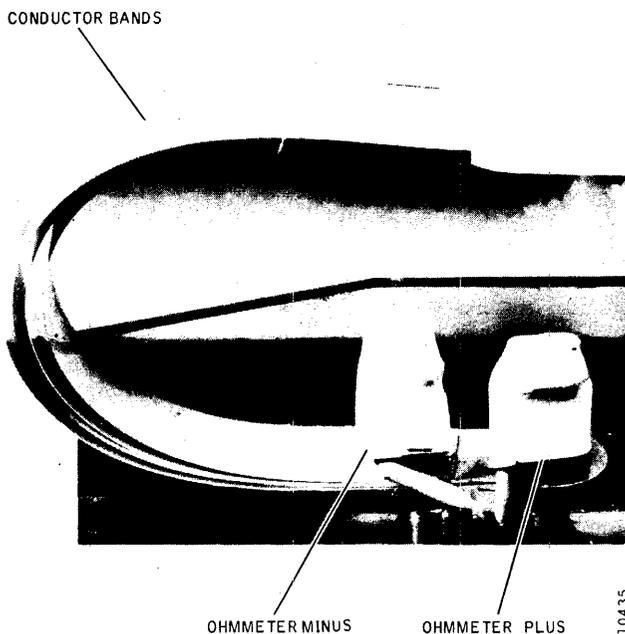

Figure 3-44. Bobbin Resistance Check Points
6. Disconnect and tag the two wires connected to the linear motor conductor band lugs. See Figure 3-44.
In step 4 below, note that the forward (positive) motor conductor band blade lug is smaller than the rear (minus) lug. On some early model drives these blade lugs were of the same size. When reinstalling these leads be extra careful not to reverse them. Refer to Figure 3-44.
4. Disconnect and tag the two wires to the linear motor conductor band lugs. Refer to Figure 3-44.